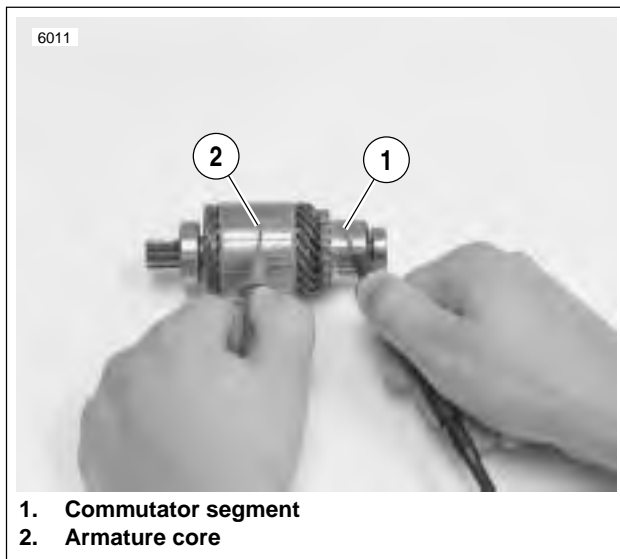

Figure 5-21. Grounded Armature Test
10. See Figure 5-21. Check for a GROUNDED ARMATURE with an ohmmeter or continuity tester.
- Touch one probe to any commutator segment (1).
- Touch the other probe to the armature core (2).